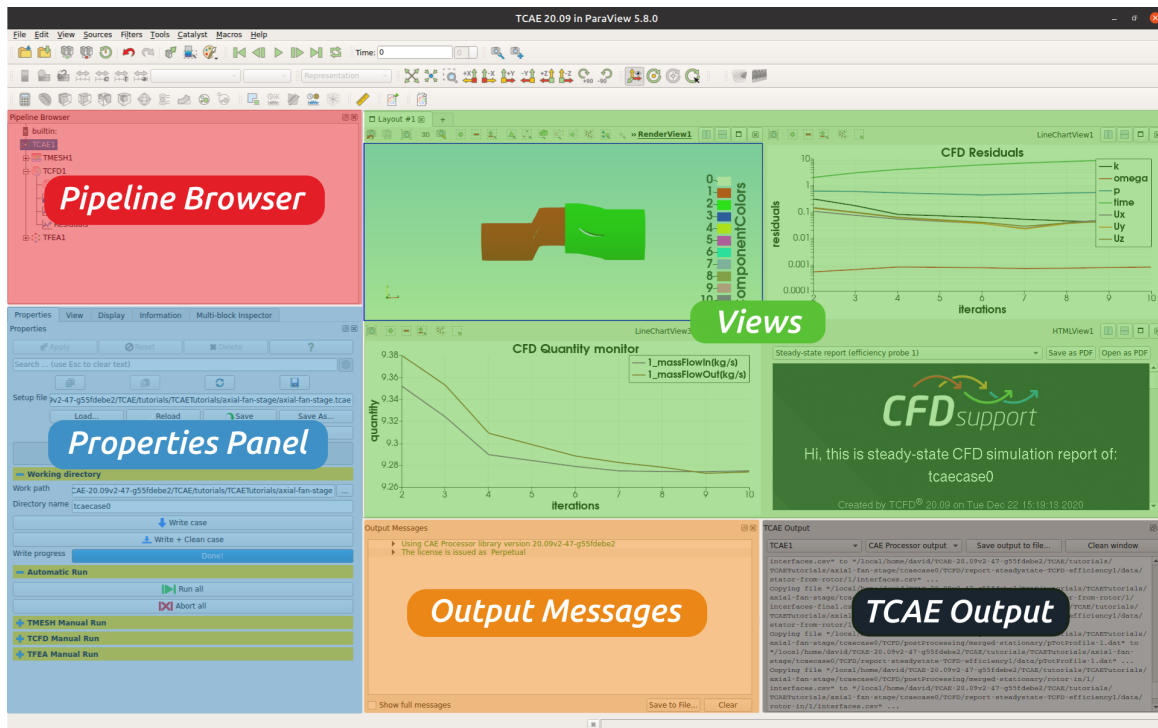

Figure 3.1: TCAE – GUI layout.
TCAE's graphical user interface is created in the **ParaView** software (3.8). The original **ParaView** GUI is modified for our specific needs, but all of its functionality has been preserved. The GUI layout of the TCAE is shown in Figure 3.1.
- **Views** visualize inputs (like geometry) and the outputs (mesh, residuals etc.) of the simulation. Working with views is straightforward, user can open and close views, divide some view into two smaller, resize them, add new view layout etc. There are different views dependent on the type of the data being displayed. Displaying the data works closely with the *Pipeline Browser*. Each *Output Port* (e. g. *CFD Geometry*) has its own button , which controls visibility of the underlying data in the active *View* (Figure 3.1). So it is possible to have more *Views*, even of the same type, and to show the data just in some of them, as desired. These views are utilized in TCAE: